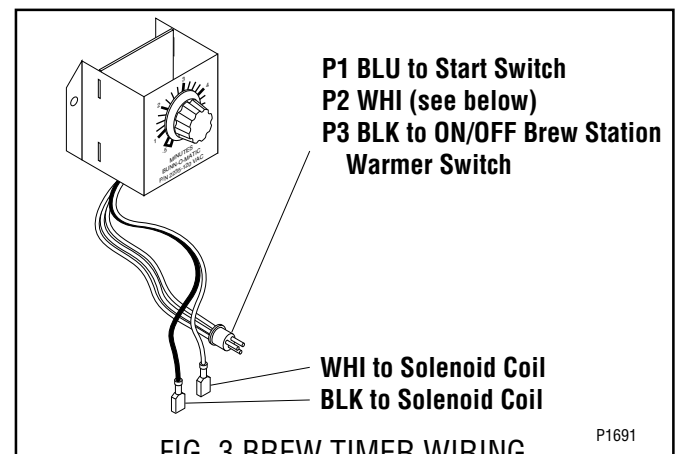

FIG. 3 BREW TIMER WIRING
4. Refer to FIG.3 when reconnecting the wires.